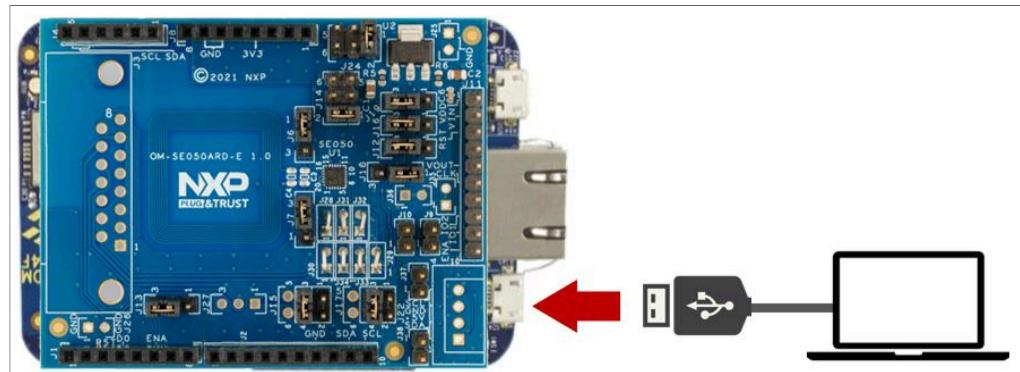

Figure 10. Connect boards to the laptop
1. Attach a USB cable from the computer to the K64F OpenSDA debug USB connector as shown in Figure 10.